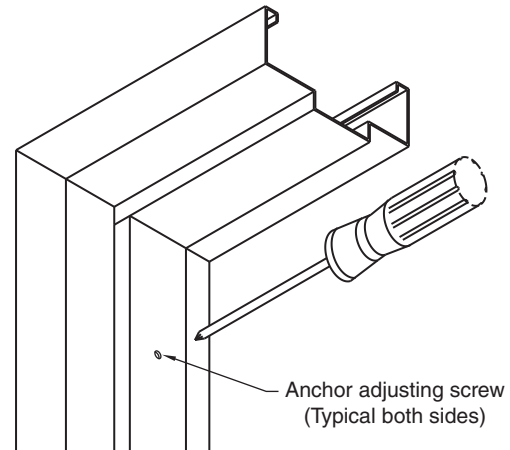

Figure 32 – Anchor adjusting screw
11.5 Turn adjusting screws hand tight (DO NOT USE SCREW GUN) until compression anchor contacts jamb studs (see Figure 32).